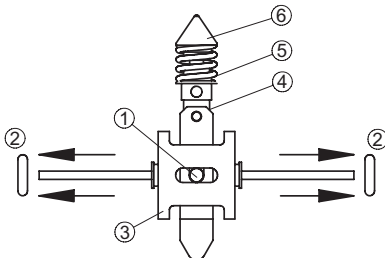

Fig. 8.4: Dismantling the shift assembly
Allow the connecting pin ① (see Fig. 8.4) to drop out. Then release and dispose of the O-rings ②. Cage ③, joint ④ with spring ⑤ and spring head ⑥ can now be easily removed. The joint ④ is an assembly that cannot be further disassembled.